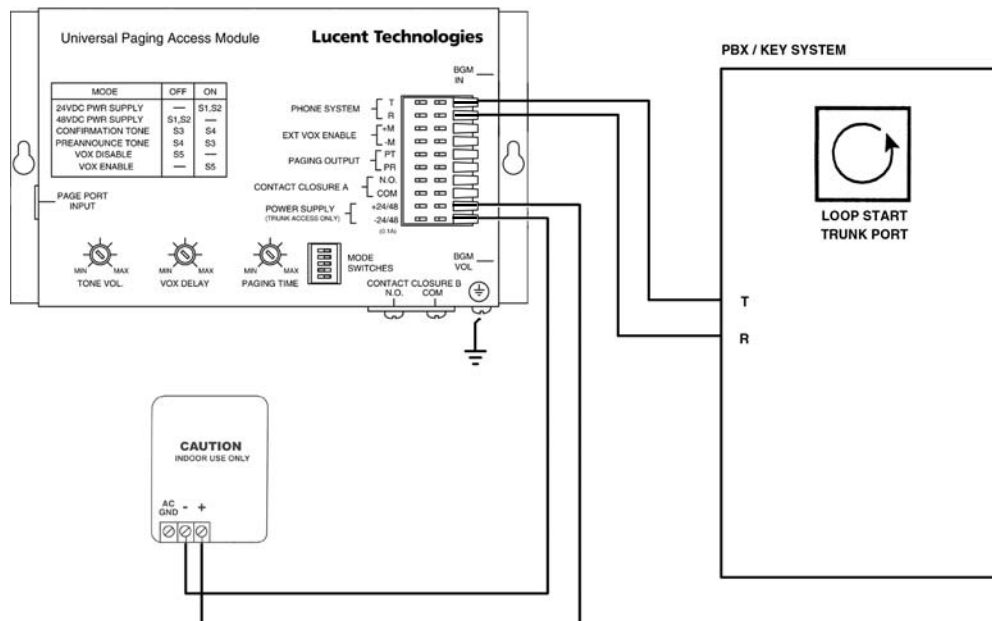

Figure 2: Trunk Port Connection: Loop Start Trunk Port
5. Connect "Tip" of trunk port to T terminal on UPAM (see Figure 2 on next page).